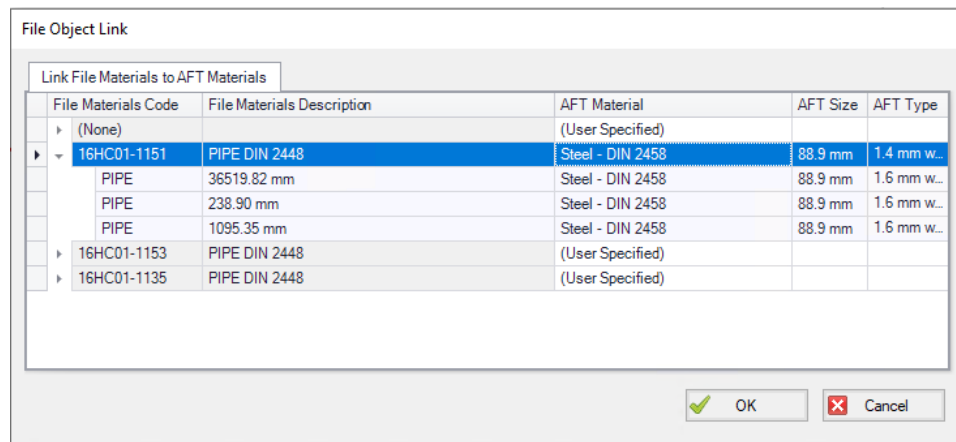

Figure 2: File Object Link window for Piping Component File Import
- **Link Materials** - Opens the File Object Link window, where groups of pipes from the .pcf file can be associated with a pipe material, size, and type in the AFT Pipe Material library. Pipes can be grouped by file schedules (i.e. item codes) or diameters, and are sorted by length within each group. The selection from the AFT Pipe Material library will overwrite any diameter information from the .pcf file. Selections made for a .pcf material will be applied to all pipes that reference that .pcf material. Pipes associated with each material can be seen by clicking the arrow on the left expand the group (Figure 2) and can be edited individually or as a group.
- **Pipes** - While the AFT Pipe Material Library contains many piping materials specified by ASME and ANSI, the Piping Component File format does not always contain these materials and material attributes can be defined within .pcf files in a number of drastically different ways. Because of this, materials, nominal sizes and schedules are not assigned automatically and can be assigned using Link Materials (shown above in Figure 2). Pipes can be grouped by file schedules (i.e. item codes) if they exist or by diameter so that pipe size and material can be applied to a group of pipes quickly. Pipe inner diameter is assigned from the nominal diameter defined in the pipe's coordinates within the .pcf file as a starting point, but any sizes assigned in Link Materials will override these inner diameters within the AFT model. Alternatively, pipes can be defined after import using Global Pipe Edit.